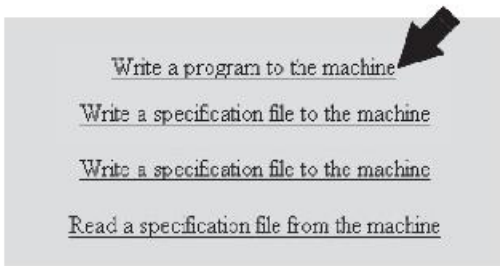

Fig. 3 Program-related menu screen
- (4) Touch the [FUNCTION] icon on the top menu, and select the [MAKER] icon (maker setting) as a tool to display the maker setting screen.
- (5) Touch the [PROGRAM] switch to display the program-related menu screen (Fig. 3).